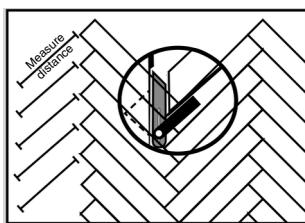

Figure 9
- To fit planks at the perimeter, measure and mark each plank based on its location. Transfer the wall angle onto the plank using an angle finder, cut to size, and install (Fig. 9).